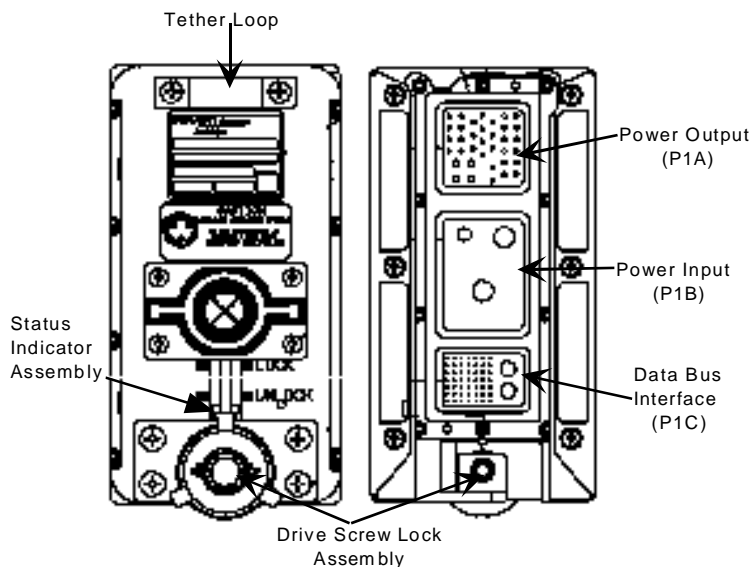

Figure 2.- Remote Power Control Module (Front and Back).
6. Align and insert 7/16" x 6" Wobble Socket Ext into failed RPCM lock assembly until it bottoms out, locking springs have released the drive screw. See Figure 2.
7. Apply constant pressure to release RPCM lock springs without rotational motion, loosen failed RPCM drive screw (nine turns) (Ratchet 3/8" Drive, 7/16" x 6" Wobble Socket Ext). See Figure 2.
17. Align and insert 7/16" x 6" Wobble Socket Ext into failed RPCM lock assembly until it bottoms out, locking springs have released the drive screw. See Figure 2.